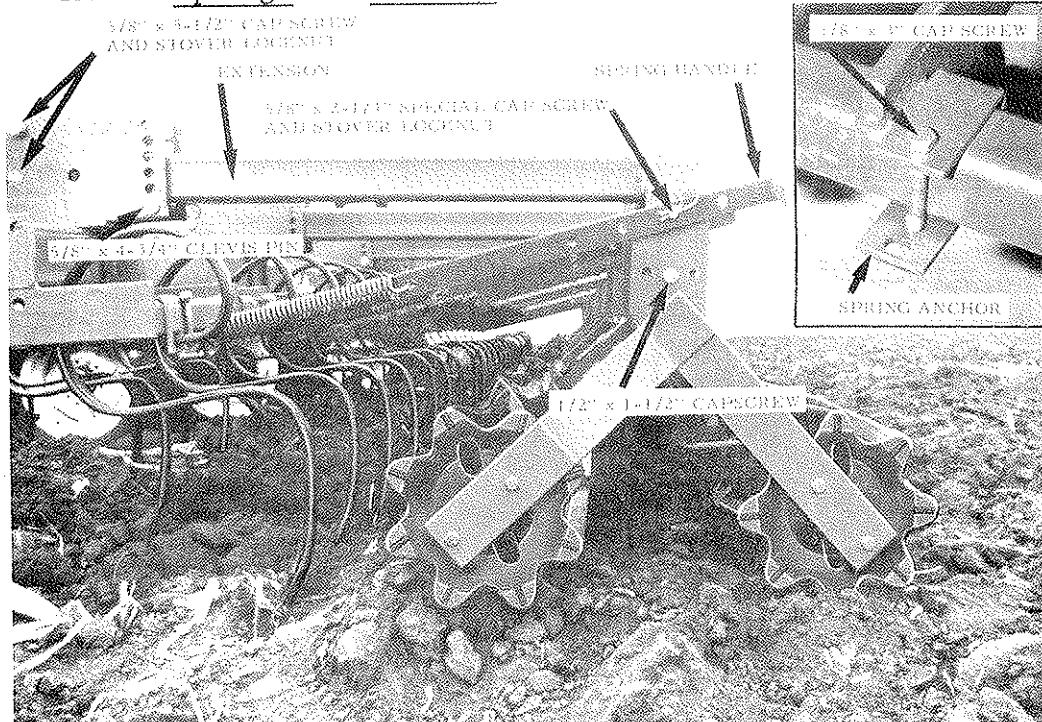

FIGURE 20
3. Attach extensions to mounting brackets with $5/8'' \times 5\text{-}1/2''$ capscrews and stover lock nuts. Tighten nut so that extension is free to swivel. Install $5/8'' \times 4\text{-}3/4''$ clevis pins and hair pin cotters. See Figure 20.